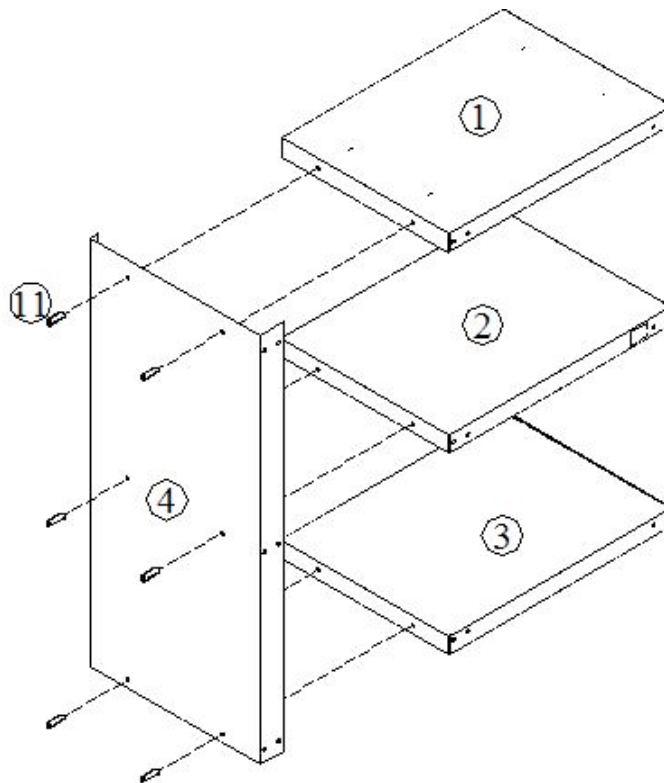

Figure 2
Assemble the pedestal by attaching the left side panel (4) to the top shelf (1), middle shelf (2) and bottom shelf (3) using the 6 pieces of enclosed sheet metal screws (11). As shown in Figure 2